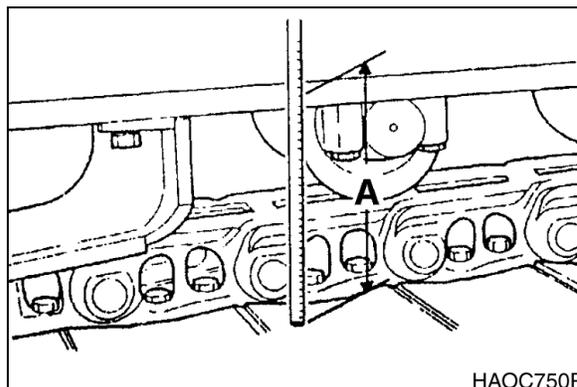

Figure 100
2. Measuring the distance (A, Figure 100) between the bottom of the side frame and the top of the lowest crawler shoe. Recommended tension for operation over most types of terrain is 320 - 340 mm (12.60 - 13.39 in)